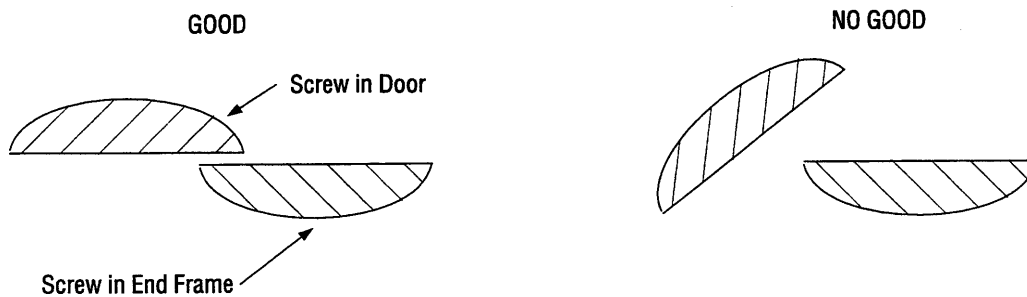

Figure 8-7. Correct Adjustment of Door Pressure Lock
5. Pull door out and down to engage low pressure lock. The low pressure lock consists of two milled stainless steel screws that overlap when the door seal is activated. Verify that the low pressure lock screws are tight, and flat with respect to each other. See Figure 8-7.